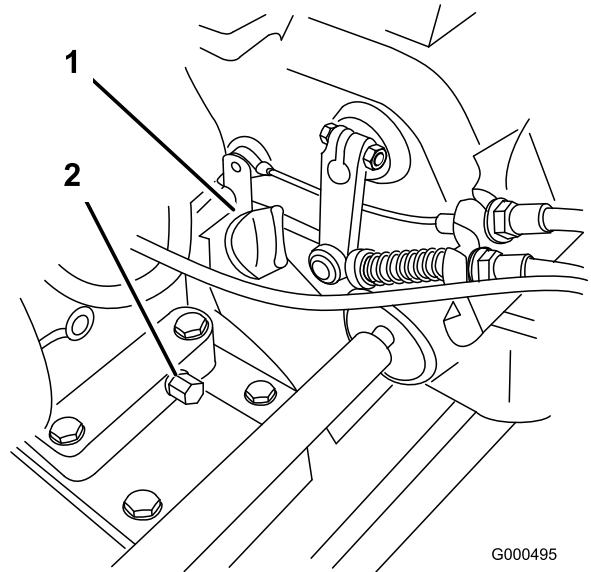

Figure 29
2. Position the machine so that the engine is level, and clean the area around the oil-level gauge (Figure 29).
3. Remove the oil-level dipstick by rotating it counterclockwise (Figure 29).
2. At the rear of the machine, place a drain pan under the drain plug (Figure 29). Loosen the drain plug.